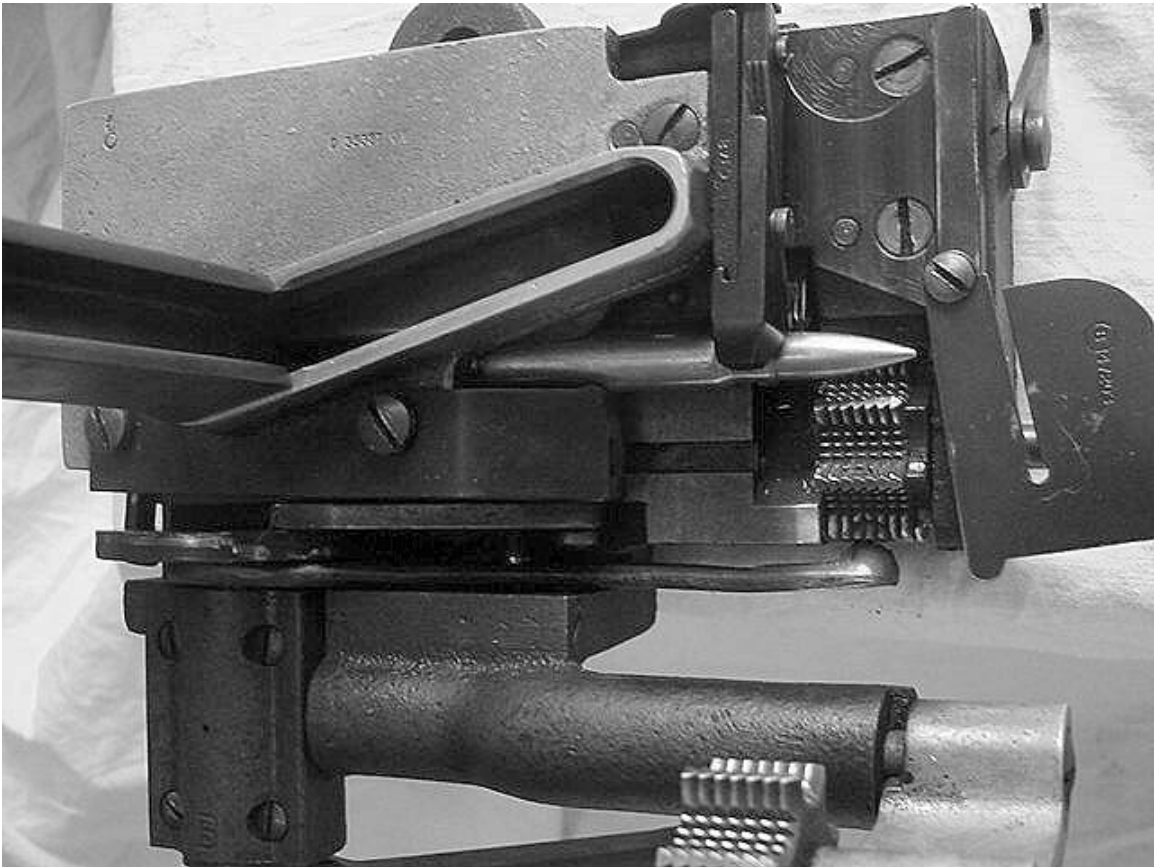

Figure 5
a. Load the cartridge guide with rounds, by stripping from the paper boxes in which they were packed or by placing them in the cartridge guide, according to desired ratio of ball, tracer, incendiary, or AP. Rotate the crank clockwise until the point of a bullet in the machine engages the cupped end of the groove in the back of the shuttle blade and pushes the blade point about 1/16 of an inch into the path of the belt (fig. 5).